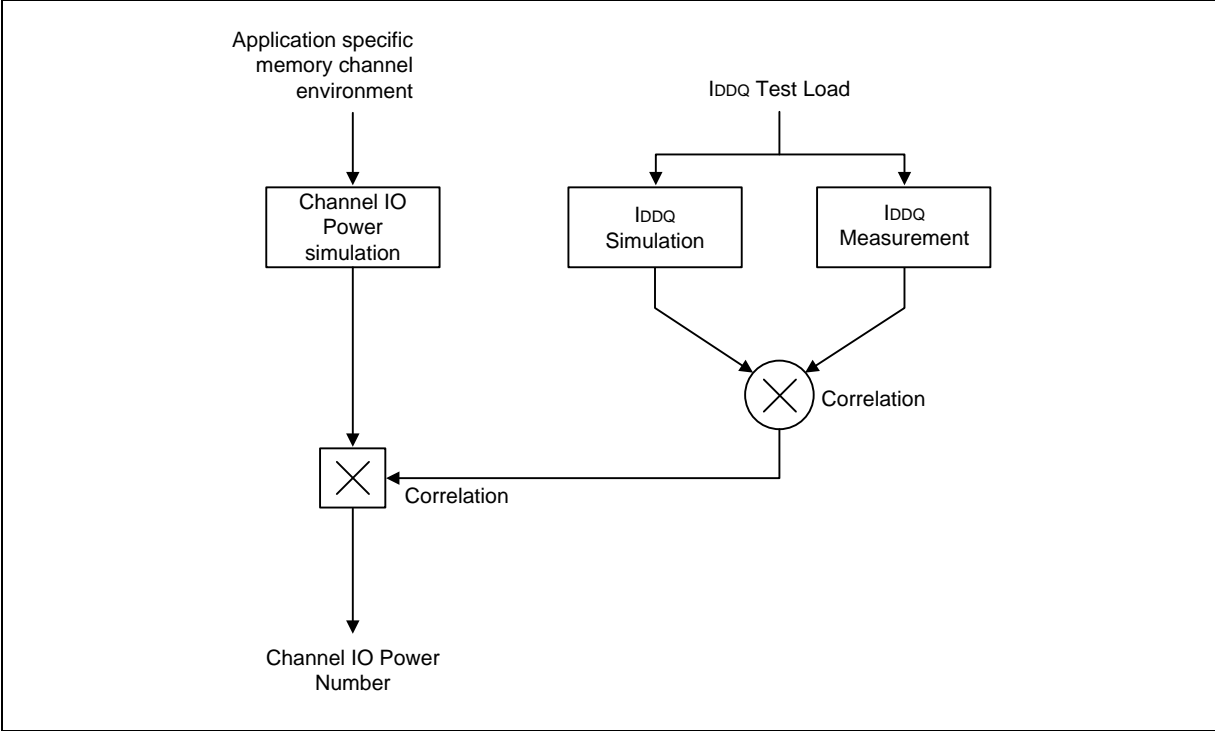

Figure 106 – Correlation from simulated Channel IO Power to actual Channel IO Power supported by  $I_{DDQ}$  Measurement
**Attention: IDDQ values cannot be directly used to calculate IO power of the DDR3 SDRAM. They can be used to support correlation of simulated IO power to actual IO power as outlined in Figure 106. In DRAM module application, IDDQ cannot be measured separately since VDD and VDDQ are using one merged-power layer in Module PCB.**